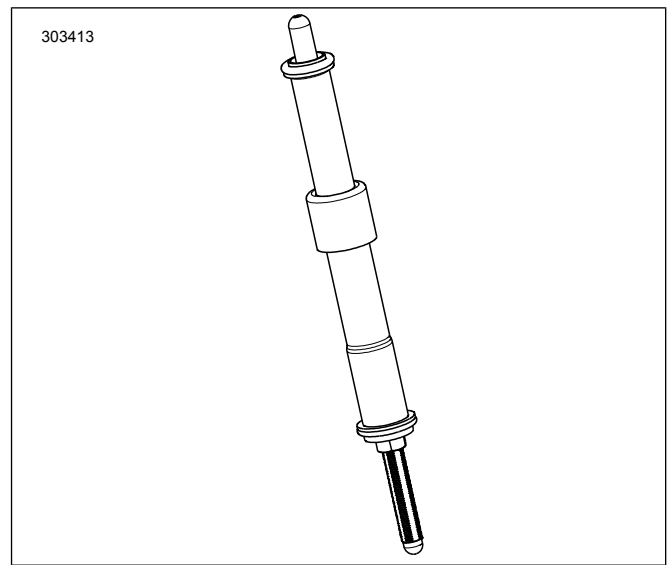

Figure 4. Pushrod Installed into Pushrod Cover
7. See Figure 4. Install the intake pushrods into the pushrod covers. Replace O-rings, lower pushrod cover and spring cover keeper with new components supplied in kit. Be sure adjuster end of pushrod is down.